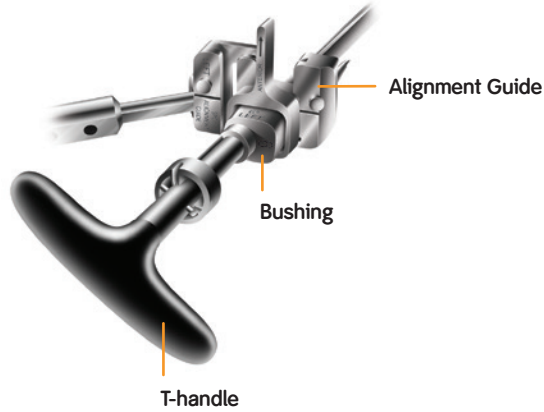

Figure 1
- 5 Slide the rod through the bushing (Figure 1).